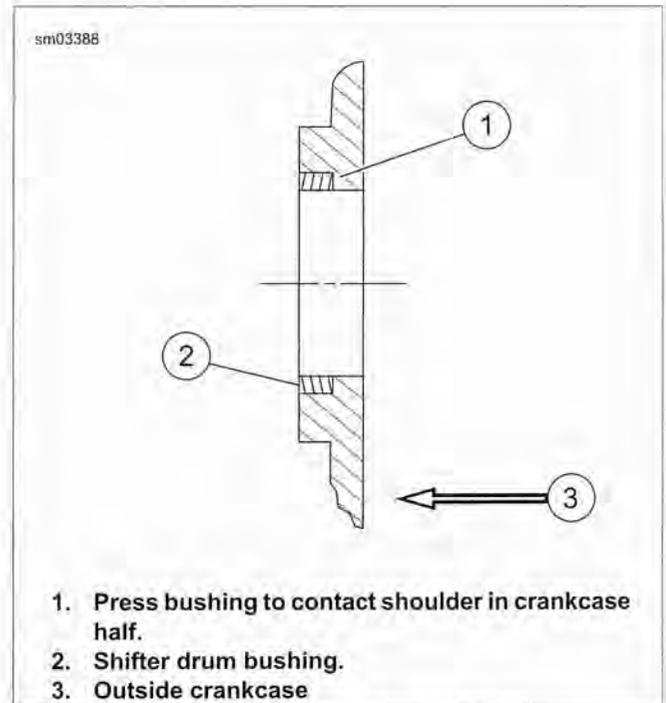

Figure 5-87. Shifter Drum Bushing Assembly
2. See Figure 5-87. Lay bushing squarely over bore. Using a pressing tool larger than diameter of bushing, press bushing into bore until bushing contacts shoulder in left crankcase half. If using a pressing tool larger than diameter of bushing, the pressing tool will bottom against crankcase when bushing is flush with top surface.